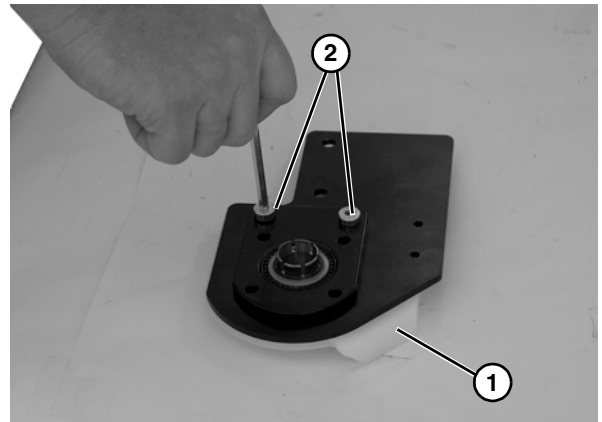

Figure 41
11. Check drive terminal assembly (**Figure 41, item 1**) for wear. If worn, remove two low head cap screws (**Figure 41, item 2**) and replace.